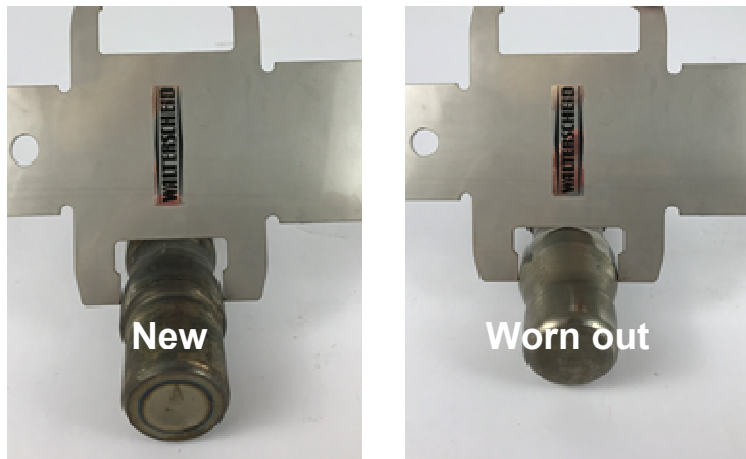

Figure 3
- The test piece has reached the technical wear limit when it is completely immersed in the gauge (see Figure 3).